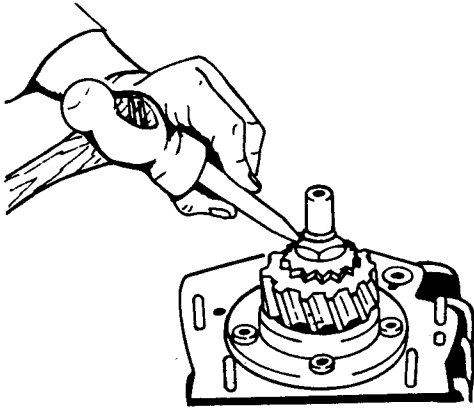

Fig H1.53
- (5) Refer to Fig H1.53. Lock the transfer gear nut with the lock washer, bending this over so that it fits into the groove in the threaded portion of the main shaft.